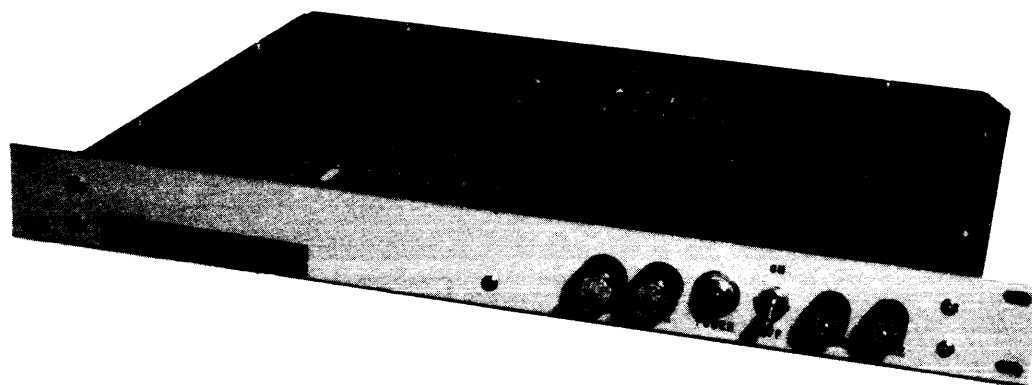

Figure 1-1
(1) The Eight Output Antenna Multicoupler, Model LMC-8A (figure 1-1) is a broadband Antenna-to-Receiver coupling device which permits the use of a common antenna by eight Low frequency communications receivers. Its circuitry consists of a Lowpass filter, a broadband transistorized preamplifier, and eight individual buffer amplifiers. The unit is engineered in such a way that a sizeable reduction is achieved in the amplitude of signals re-radiated from one receiver to another or from one receiver to the common antenna system. The LMC-8A is provided with a lowpass filter which passes frequencies between 10 KHz to 2 MHz.
(2) The filter attenuates all signals outside the band to avoid needless overloading of amplifiers due to large signals outside the band of interest.
(3) The amplifier including buffers, has a low noise figure and yet large signal handling capability. It yields +2 dB overall insertion gain with out introducing objectionable intermodulation. In addition, it provides a constant input and output impedance for a good VSWR over 10 KHz to 2 MHz, and high isolation between output to output or output to input to suppress re-radiation from one receiver to another or to the common antenna system.